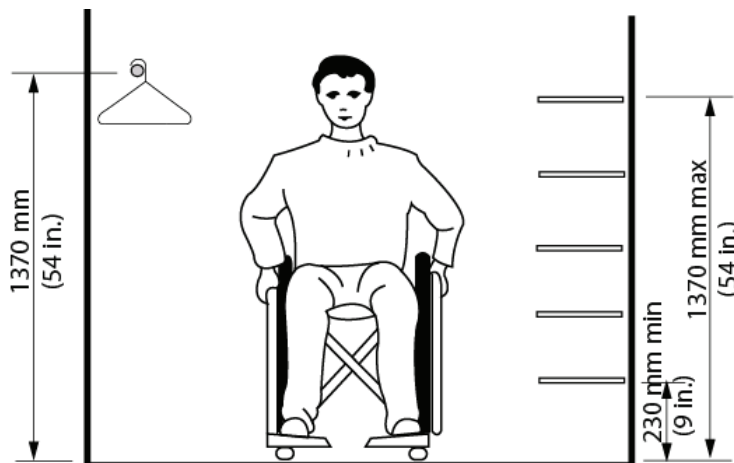

Figure 65: Reach Limits for Storage
- Upper storage shelves (not intended for accessible use) may be installed up to 1370 mm AFF as shown in Figure 65)